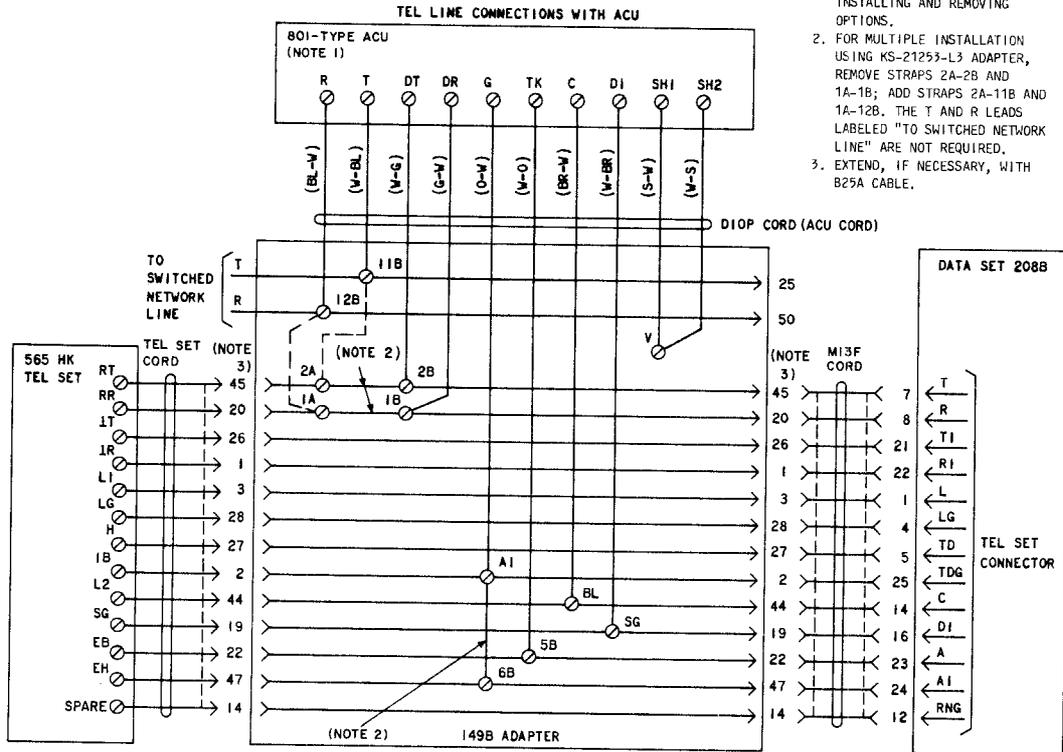

Fig. 4—Connection Diagram—Single Data Set 208B-Type With ACU Installation
2.04 In addition to the apparatus listed in 2.03, a single data set installation using an ACU (Fig. 4), requires the following apparatus which also must be ordered separately: